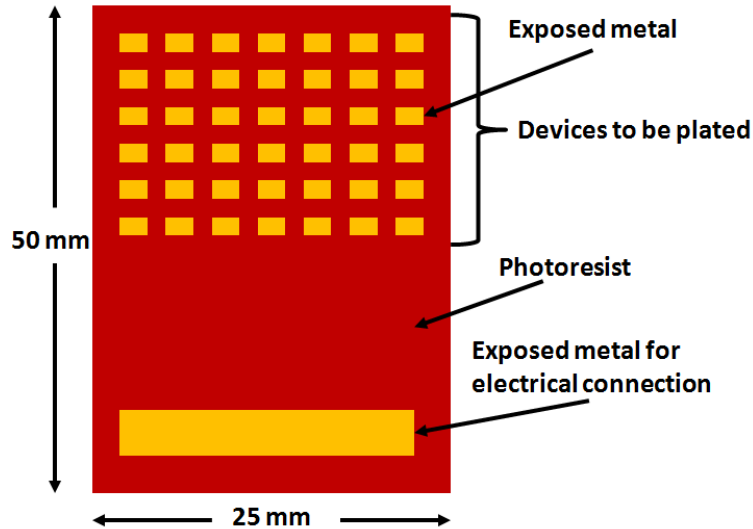

Figure 10 Example layout of sample to be electroplated.
- j. The entire sample should have a layout similar to **Figure 10**. Where the devices to be plated will be the "active" region that is completely submerged in the plating solution. While the electrical connection region will be completely outside of the solution. The electrical connection region is where the metallic **binder clip** will have a direct ohmic connection with the sample. It is critical that the photoresist is completely developed from this area.
8) Gold Electroplating (Figure 10):
- vii. Attach the *alligator clips* of the *power supply* to the anode (*stainless steel sheet*) and cathode (MEMS sample). To reiterate, it is critical that there is a place for the *binder clip* to attach to the wafer that is not coated with photoresist! You need a good contact region to make an electrical connection to the seed layer. This should be designed in as part of your mask (**Figure 10**), otherwise you may need to try to use *acetone* on a swab to open up a little region at the edge of the wafer to make contact.